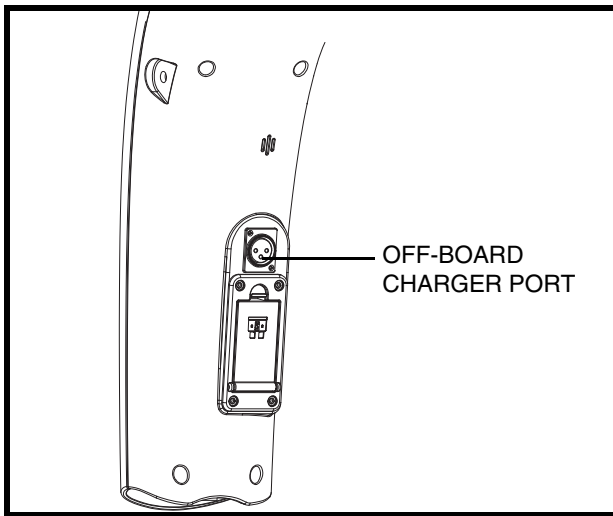

Figure 5. Off-board Charger Port
The off-board charger power lead plugs into this port during battery charging. The off-board charger port is located on the tiller. See **figure 5**.
5. Plug the 3-pin charger power lead into the off-board charger port. **See figures 5 and 10A.**